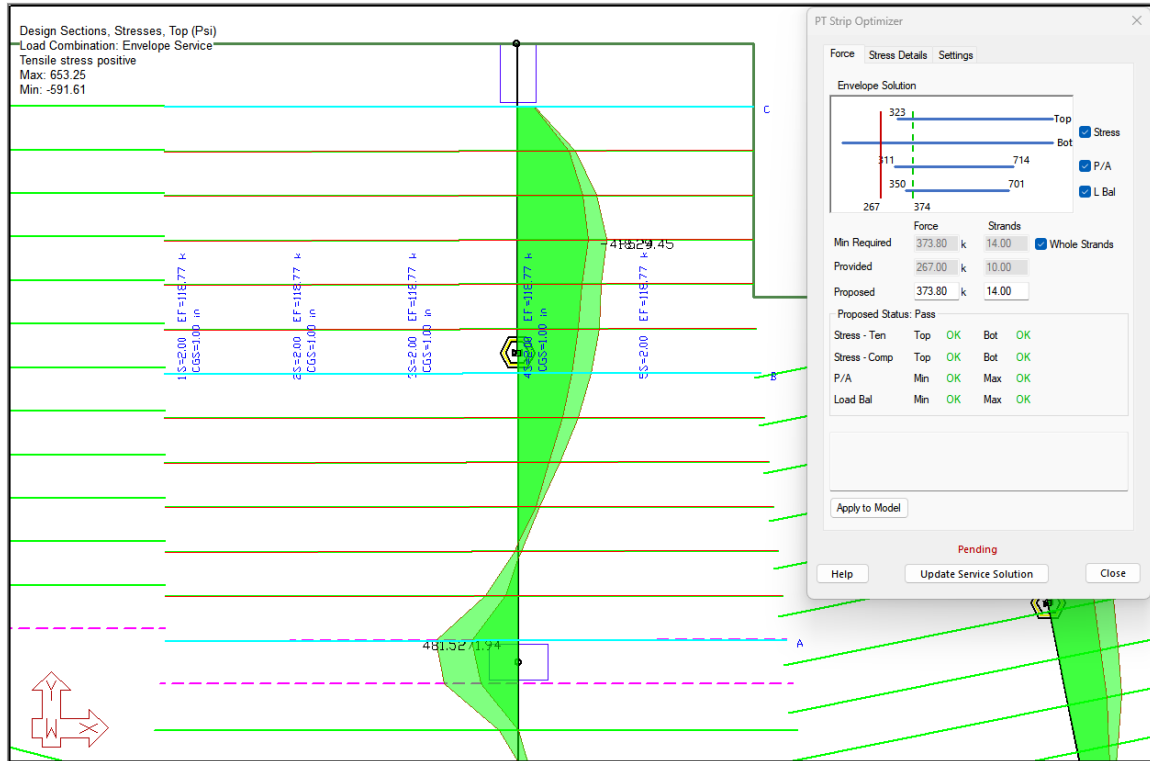

FIGURE 9-111
- Your screen should now look as shown in **FIGURE 9-111**.